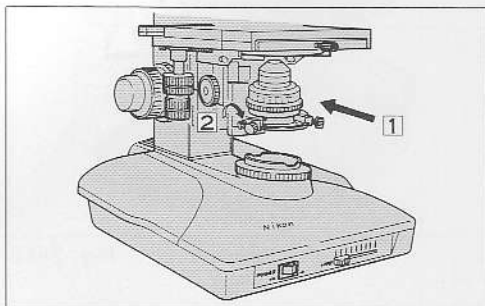

Fig. 2-8
⑥ Mounting and Dismantling the Condenser Lens
- Insert the condenser lens into the condenser carrier ① with the numerical aperture plate facing toward the user. Fasten it with the condenser clamp screw ② (Fig. 2-8).